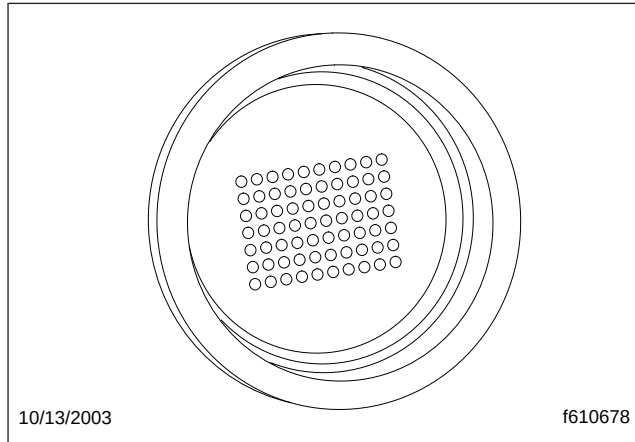

Fig. 8.7, Power Up Dot Display
3. After the ignition is turned on, the current gear indicator shows the dot display, arranged in a square pattern. All dots in the pattern should light up, without gaps or spaces. See Fig. 8.7.